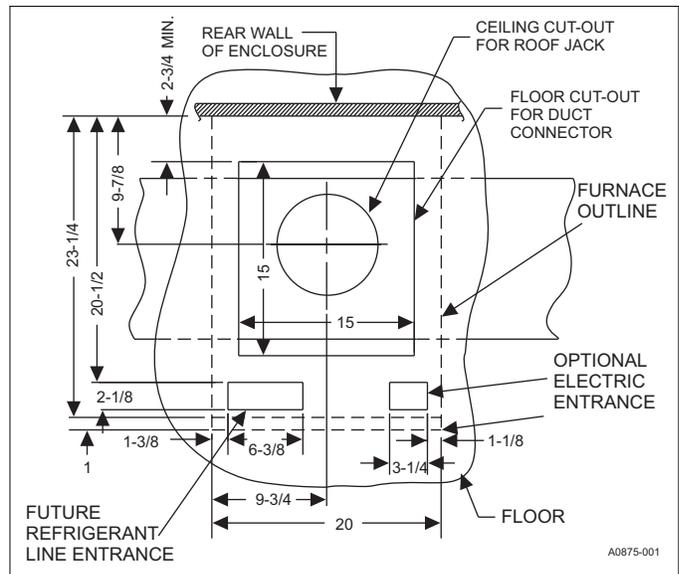

Figure 6: Recommended floor cut-out (7990 series)
1. Make floor cut out as shown in Figure 6.